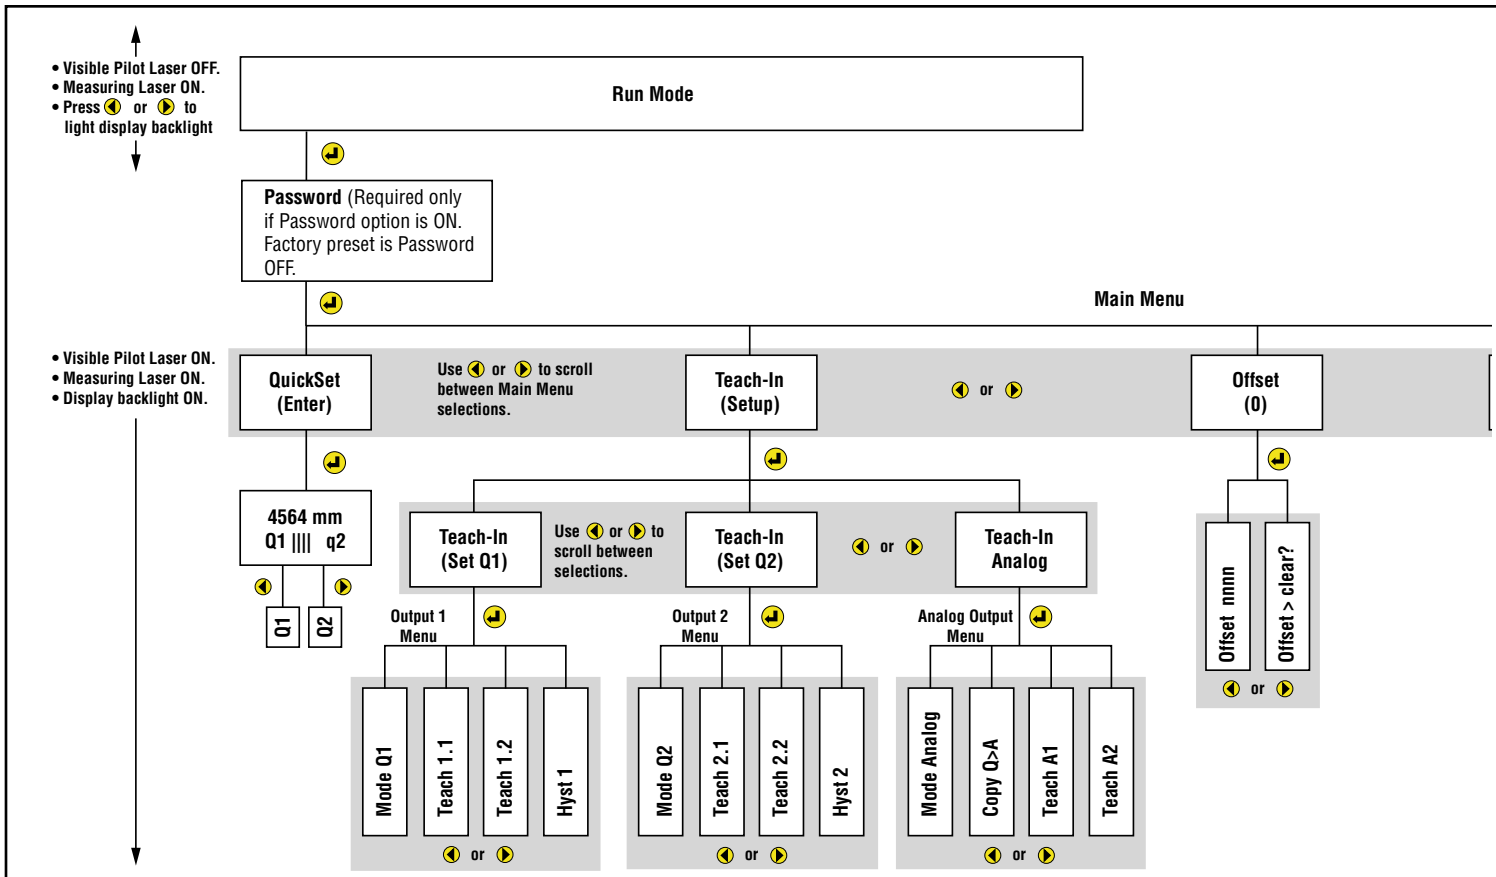

Figure 7. Programming menu tree
Left Arrow	<ul style="list-style-type: none"> • Run mode: Press to light display • Programming mode: Scrolls to the next menu position to the left (Figure 7) • Manual adjust: Decreases current digit by 1 • QuickSet menu: Enables teach-in of Q1
Right Arrow	<ul style="list-style-type: none"> • Run mode: Press to light display • Programming mode: Scrolls to the next menu position to the right (Figure 7) • Manual adjust: Increases current digit by 1 • QuickSet menu: Enables teach-in of Q2
Left and right arrow buttons	<ul style="list-style-type: none"> • Escape: Cancels active function and switches to one menu level above (Figure 7) without saving new values <p>Important: Both arrows must be pressed simultaneously. Previous value is unchanged.</p>
From Run mode, press Enter (⏏) to access Programming mode. If Password is set to OFF (factory setting), the sensor will proceed to the Main menu (see Figure 7). When the sensor enters Programming mode, several things occur:
- Sensor proceeds to QuickSet on the Main menu (see Figure 7).
- Activate any Programming menu item (see Figure 7), so that the pilot laser is ON.
- Activate any menu item (see Figure 7), so that the pilot laser is ON.